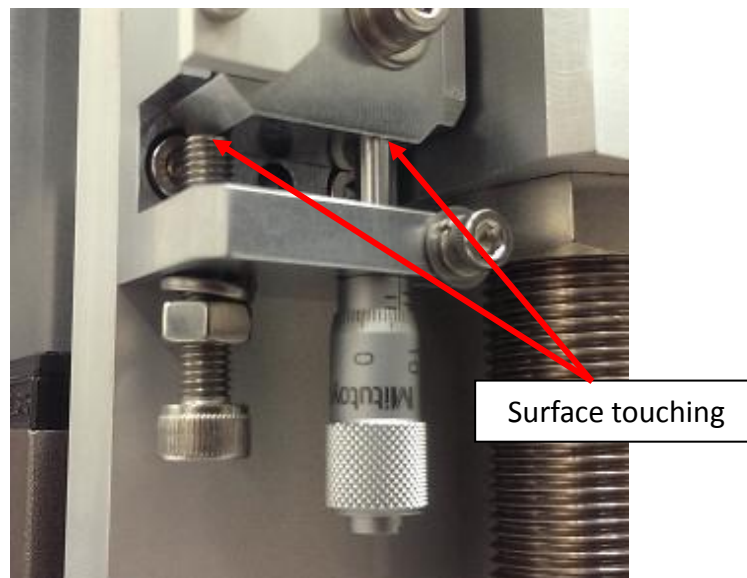

Figure 28 High Mag hard stop
35. With tube cylinder **Down** position, hand tight the M5, Hard Stop Support Screw and Nut. Ensure the screw is touching the Hard Stop Block surface as Figure 28.